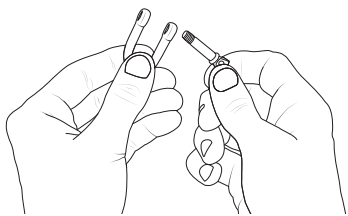

Fig. 1
2. Connect the Tool Shackle to the tool. Unscrew and remove the crossbar [fig. 1].
- Conecte el grillete a la herramienta. Desenrosque y quite la barra [fig. 1].